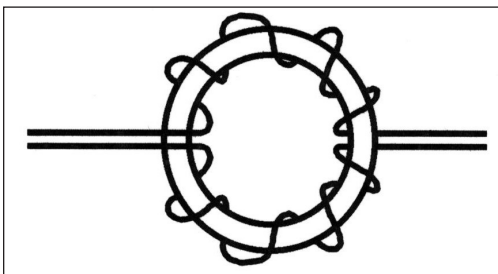

Figure 5: Toroid with two lines wrapped on opposite sides (common mode)
Common mode style inductors have both conductors wrapped around the core in the same direction. On the toroid shown in Figure 5, the two lines are wrapped on opposite sides of the core. The advantages of winding an inductor in this manner are: (1) there is no wasted core material; (2) the capacitance of the wires from input to output is minimized; and (3) it is less likely to cross wire the core. The disadvantages are: (1) a minimum of line-to-line capacitance, which is helpful for rejecting differential mode noise; and (2) there is more leakage inductance in this layout. Leakage inductance is caused by having each half of the core wound with an unopposed current. Even with these shortcomings, this is the best general method of winding a toroid.